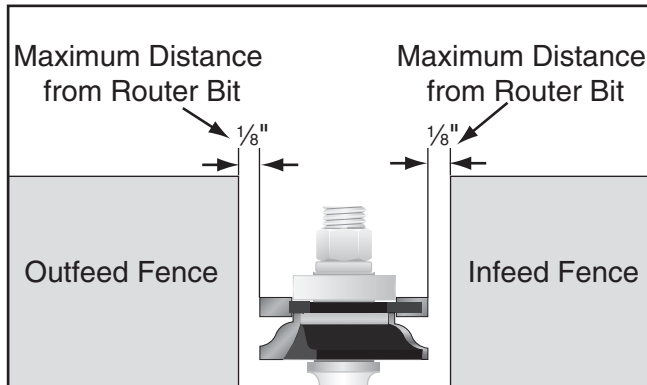

Figure 25. Positioning fences around router bit.
16. Position the infeed and outfeed fences as close as possible to the maximum diameter of the router bit, but not farther than $\frac{1}{8}$ " (see **Figure 25**).